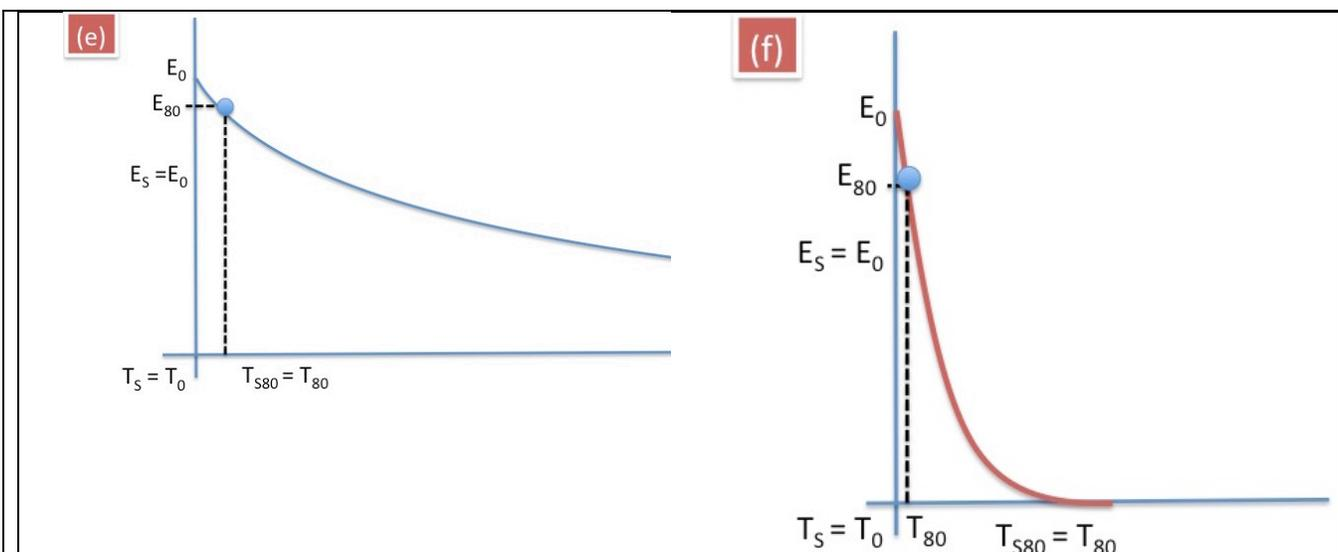

Figure 1.
6.5. Use figure 1 to identify the category of stability curves and analyze the curves accordingly using the instructions 6.6 to 6.11 (if all PV parameters are given with varying categories, choose PCE as defining category, if PCE not provided use Isc):
6.9. Choose Yes or No for Burn in (BI), Stabilized Stage (SS) and Failure (FL) and insert T0, E0, Ts, Es, T80, E80, Ts80, Es80 according to figure 1 (see step 6.5.) and category explanations below (ignore outlying points in the curve that are obvious measurement errors)